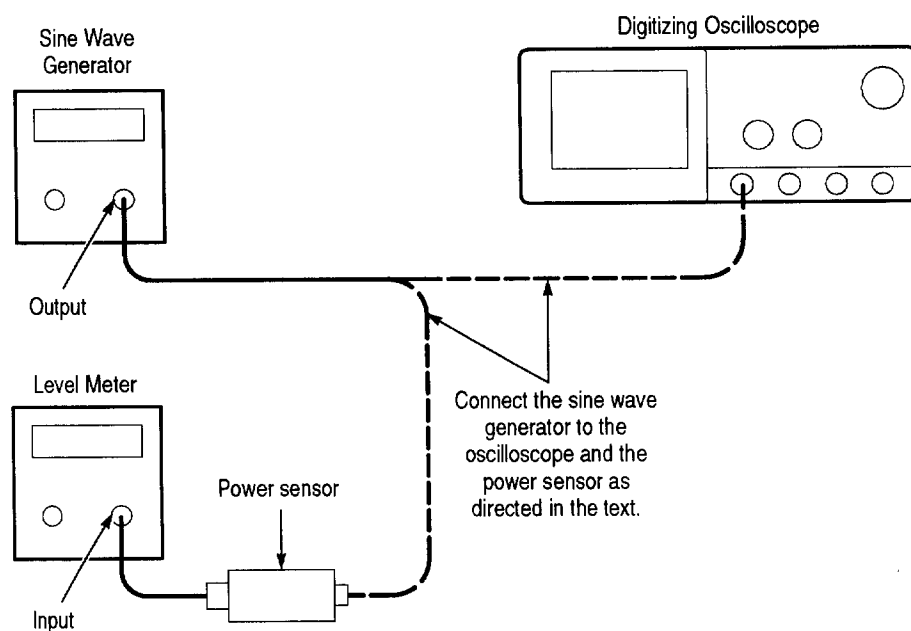

**Figure 1–41: Sine wave generator leveling equipment setup**
1. *Install the test hookup:* Connect the equipment as shown in Figure 1–41.